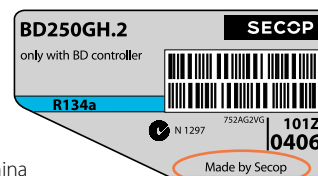

Fig.3 China
- for compressors made in China (Fig.3)